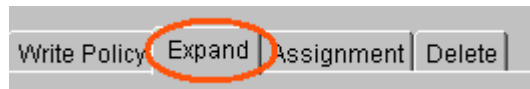

Figure 8-48: Select Expand
Step 6. After selecting the “*Operation*” tab, a new window will appear in the contents panel. Select the “*Expand*” tab shown in *Figure 8-48*.